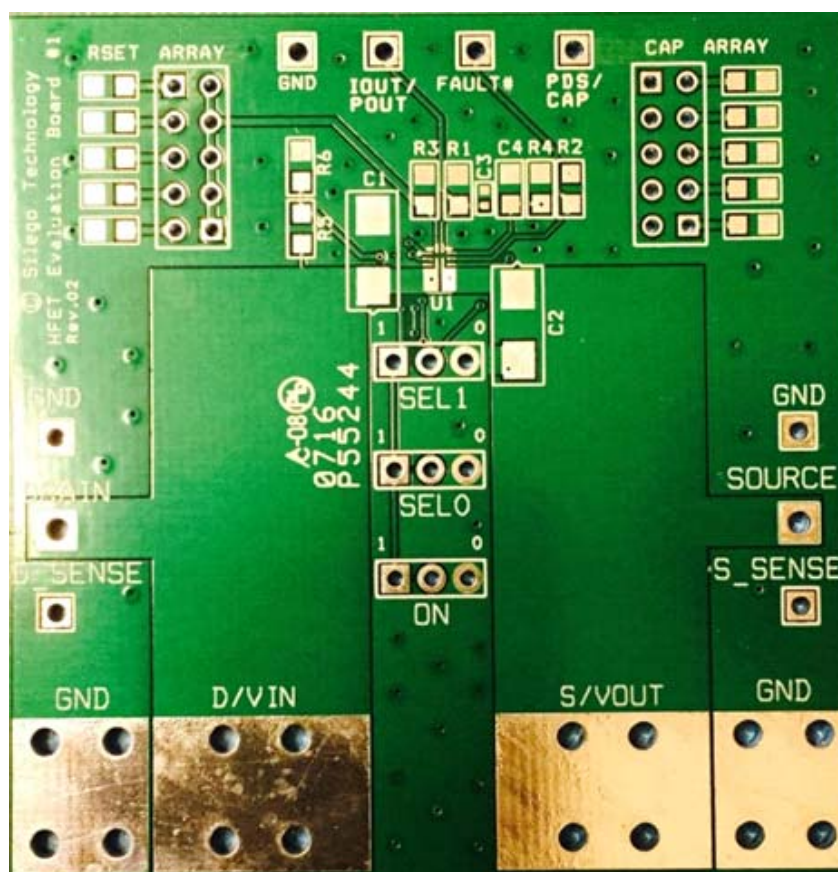

Figure 1. SLG59H1007V Evaluation Board
1. Since the VIN and VOUT pins dissipate most of the heat generated during high-load current operation, it is highly recommended to make power traces as short, direct, and wide as possible. A good practice is to make power traces with absolute minimum widths of 15 mils (0.381 mm) per Ampere. A representative layout, shown in Figure 1, illustrates proper techniques for heat to transfer as efficiently as possible out of the device;
A HFET1 Evaluation Board for SLG59H1007V is designed according to the statements above and is illustrated on Figure 1. Please note that evaluation board has D\_Sense and S\_Sense pads. They cannot carry high currents and dedicated only for  $RDS_{ON}$  evaluation.